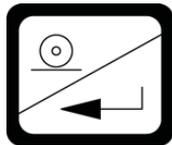

Figure No. 9
2. Locate the calibration jumper **J2** on the circuit board and remove the jumper. See Figure No. 9.